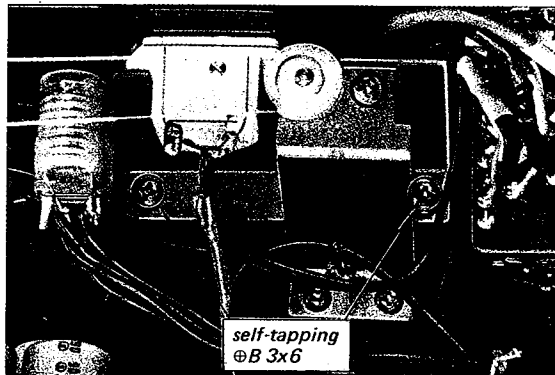

Fig. 2-15. Meter holder replacement
3. Remove the two self-tapping screws ($\text{B } 3 \times 6$) securing the meter holder to the chassis as shown in Fig. 2-15.